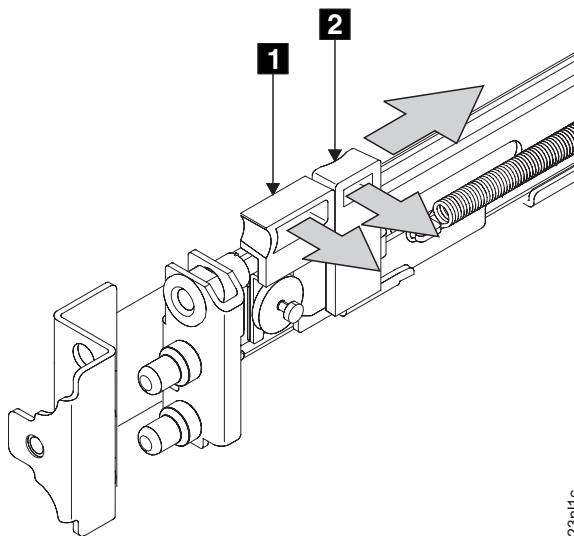

Figure 114. Opening the front latch-lock carrier assembly
3. Gently push the latch lock **2** away from the rail as you move the latch lever **1** toward the far end of the rail (Figure 114). The latch-lock carrier assembly slides against the spring tension.